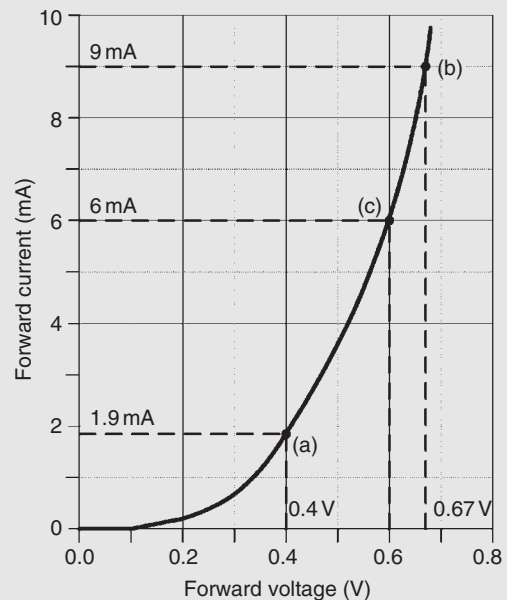

Figure 11.11
Problem 4. The forward characteristic of a diode is shown in Fig. 11.11. Use the characteristic to determine (a) the current flowing in the diode when a forward voltage of 0.4 V is applied, (b) the voltage dropped across the diode when a forward current of 9 mA is flowing in it, (c) the resistance of the diode when the forward voltage is 0.6 V, and (d) whether the diode is a Ge or Si type.
- (a) From Fig. 11.11, when $V = 0.4 \text{ V}$, **current flowing, $I = 1.9 \text{ mA}$**